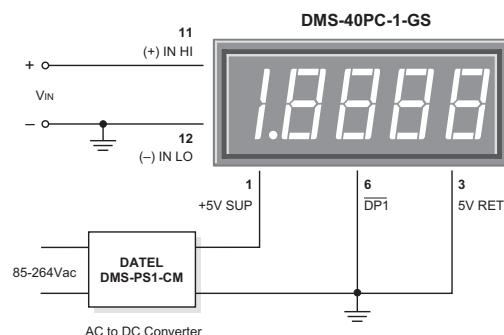

Figure 2. Single-Ended Input Configuration
1. **Single-Ended Input Configurations:** The DMS-40PC can measure single-ended signals with either positive or negative polarities. True single-ended inputs always have one of their two terminals at the same potential as the DMS-40PC's 5V RETURN (pin 3). Single-ended inputs are usually derived from power supplies that have a common ground with the meter's +5V supply. Figure 2 shows the recommended connections to be used with this type of input. Pin 12, (–) INPUT LO, is shown directly tied to ground. This connection to ground must be a separate wire or pc-board trace originating at V_{in} 's negative terminal. This hook-up will normally eliminate display instabilities and errors caused by ground-loop currents which can occur if (–) INPUT LO is tied to ground at, or near, pin 3.